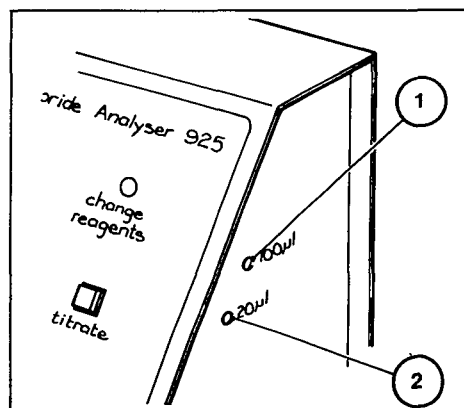

Figure 4.2 Calibrate Controls
14. Using a screwdriver adjust the 100ul calibrate control through the hole in the side panel, item 1, Figure 4.2. If the reading is low adjust the control clockwise, if high adjust control counterclockwise. The sensitivity is approximately a change of 8 mmol for one complete rotation.